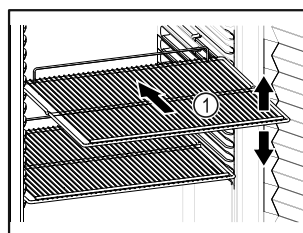

Fig. 58 Example illustration
- ❑ If there are adjustable shelves *Fig. 58 (1)*, position them as required.